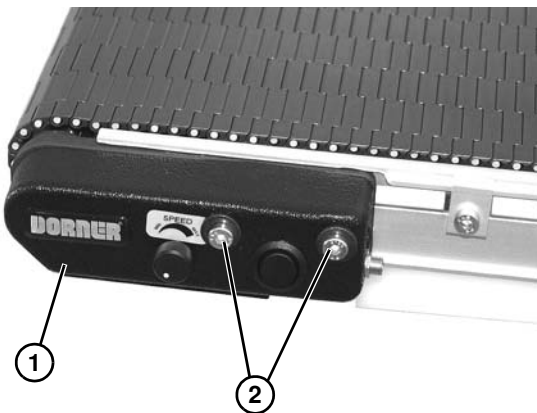

Figure 61
2. Remove inframe drive side cover (**Figure 61, item 1**) by removing two iDrive cover screws (**Figure 61, item 2**).